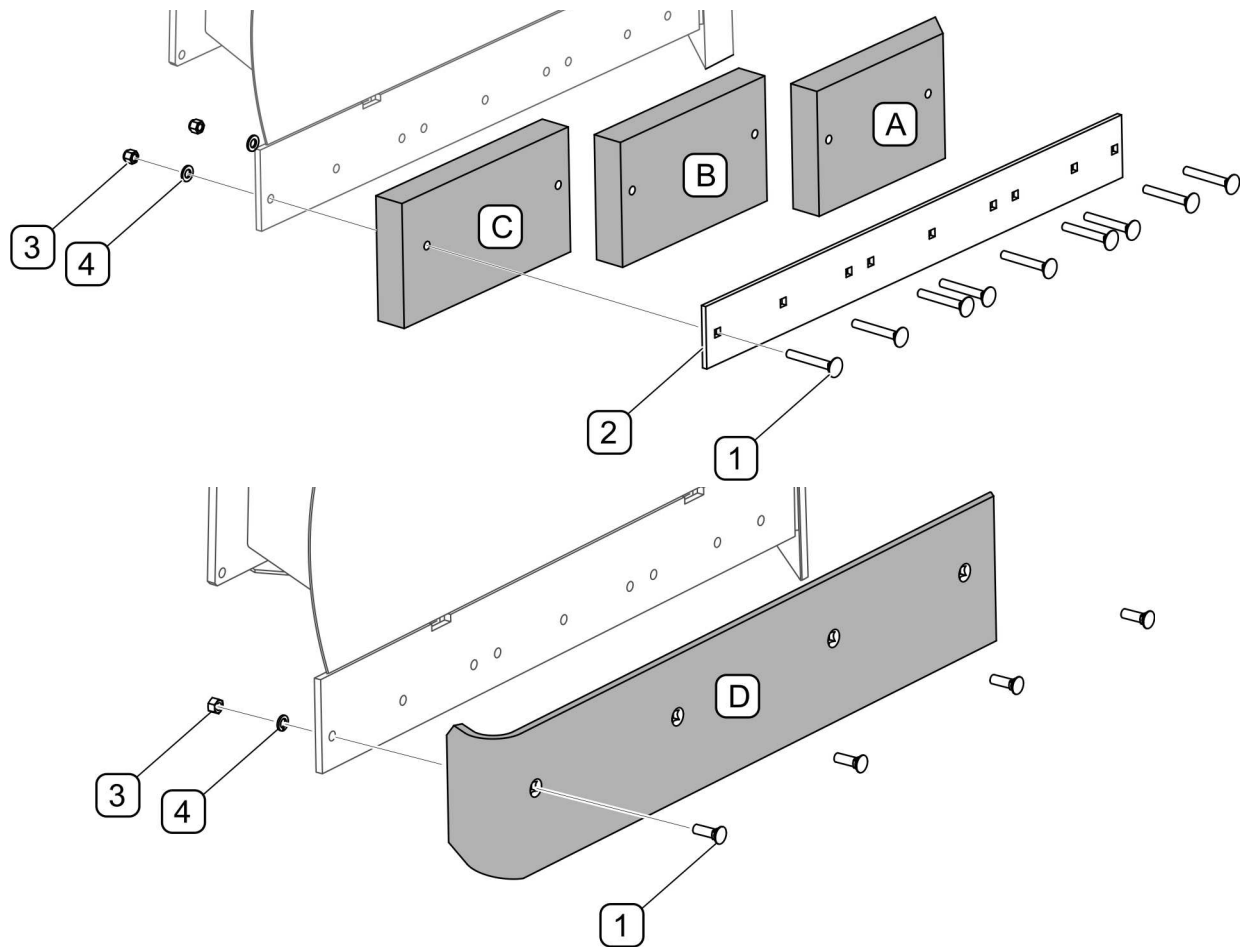

FIGURE 5.1 Replacing collecting strip
Rubber collecting strip consists of three segments (A,B,C) (FIGURE 5.1). To remove the segments of the strip, unscrew the nuts (3), remove screws (1) and remove the clamp strip (2). Replace the strip segments, reassemble in reverse order.